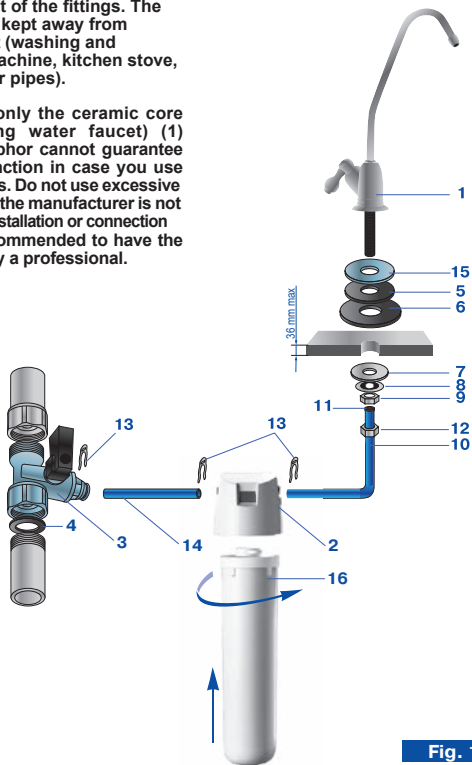

Fig. 1
Package contents (fig.1)
Find appropriate locations for the drinking water faucet (1), the filter itself (2) and shut off valve (fig.1).
Connecting to the water supply line (fig. 1):